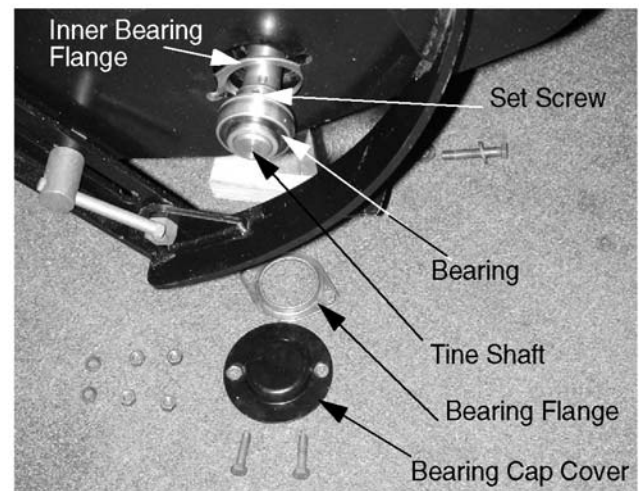

Figure 8-114.
10. Remove the set screw that holds the bearing to the tine shaft using a 1/8" allen wrench. See Figure 8-114.